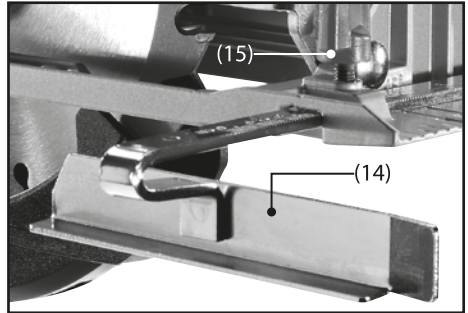

FIG.11
9.5 PARALLEL GUIDE – FIG.11
- Pass the parallel guide (14) through the slots in the base and secure with locking knob (15).